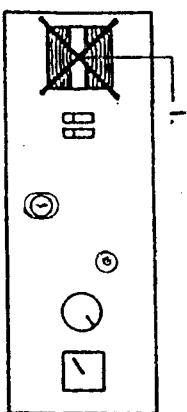

Fig. 1
In this mode the timed/rest/constant switch must be in the closed position i.e. constant position fig 1.
- Instructions for (A) Fitting Vokera 24 Hour Time Switch (Part No. 032 GC No. 301 110) and Fitting Vokera Digital 7 Day Time Switch (Part No. 05 GC No. 301 109)
- (B) Wiring to external Time Switches, Room Thermostats and Frost Thermostats
- (C) Wiring to 'Y' plan or 'S' plan installations
Remove the clock aperture blanking plate (1) (fig 1) by squeezing the two lugs on the rear of the plate together and push the plate out.